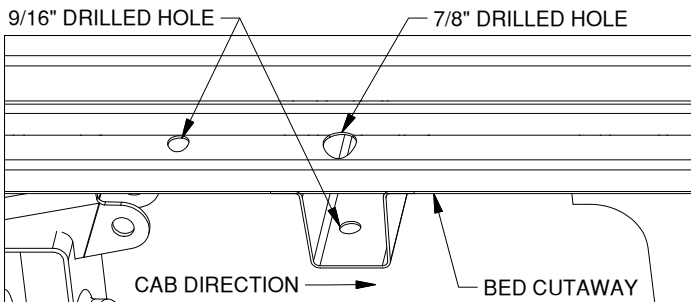

Figure A5: Cutaway view looking at top of driver side bed.
4. **Enlarge the holes.** The 1/8" holes will be used as pilots on top of the bed. With a 9/16" drill bit, carefully drill the five rear mounting rail holes, drill through both the bed and the cross member for the two forward holes. Use 7/8" drill bit to enlarge the two holes positioned above the cross member. Only enlarge the 7/8" holes in the bed and avoid drilling through the bed cross member, as shown in Figure A5.